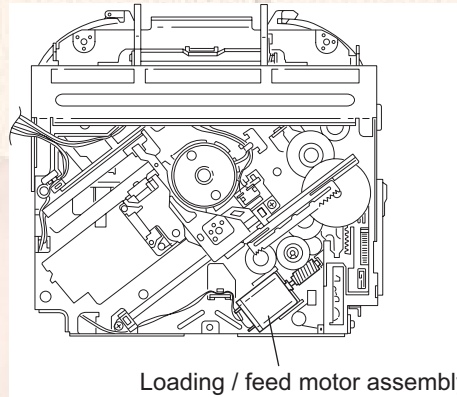

Fig.12
3.2.6 Removing the loading / feed motor assembly (See Figs.12 and 13)
When reassembling, connect the wire from the loading / feed motor assembly to the flame as shown in Fig.12.